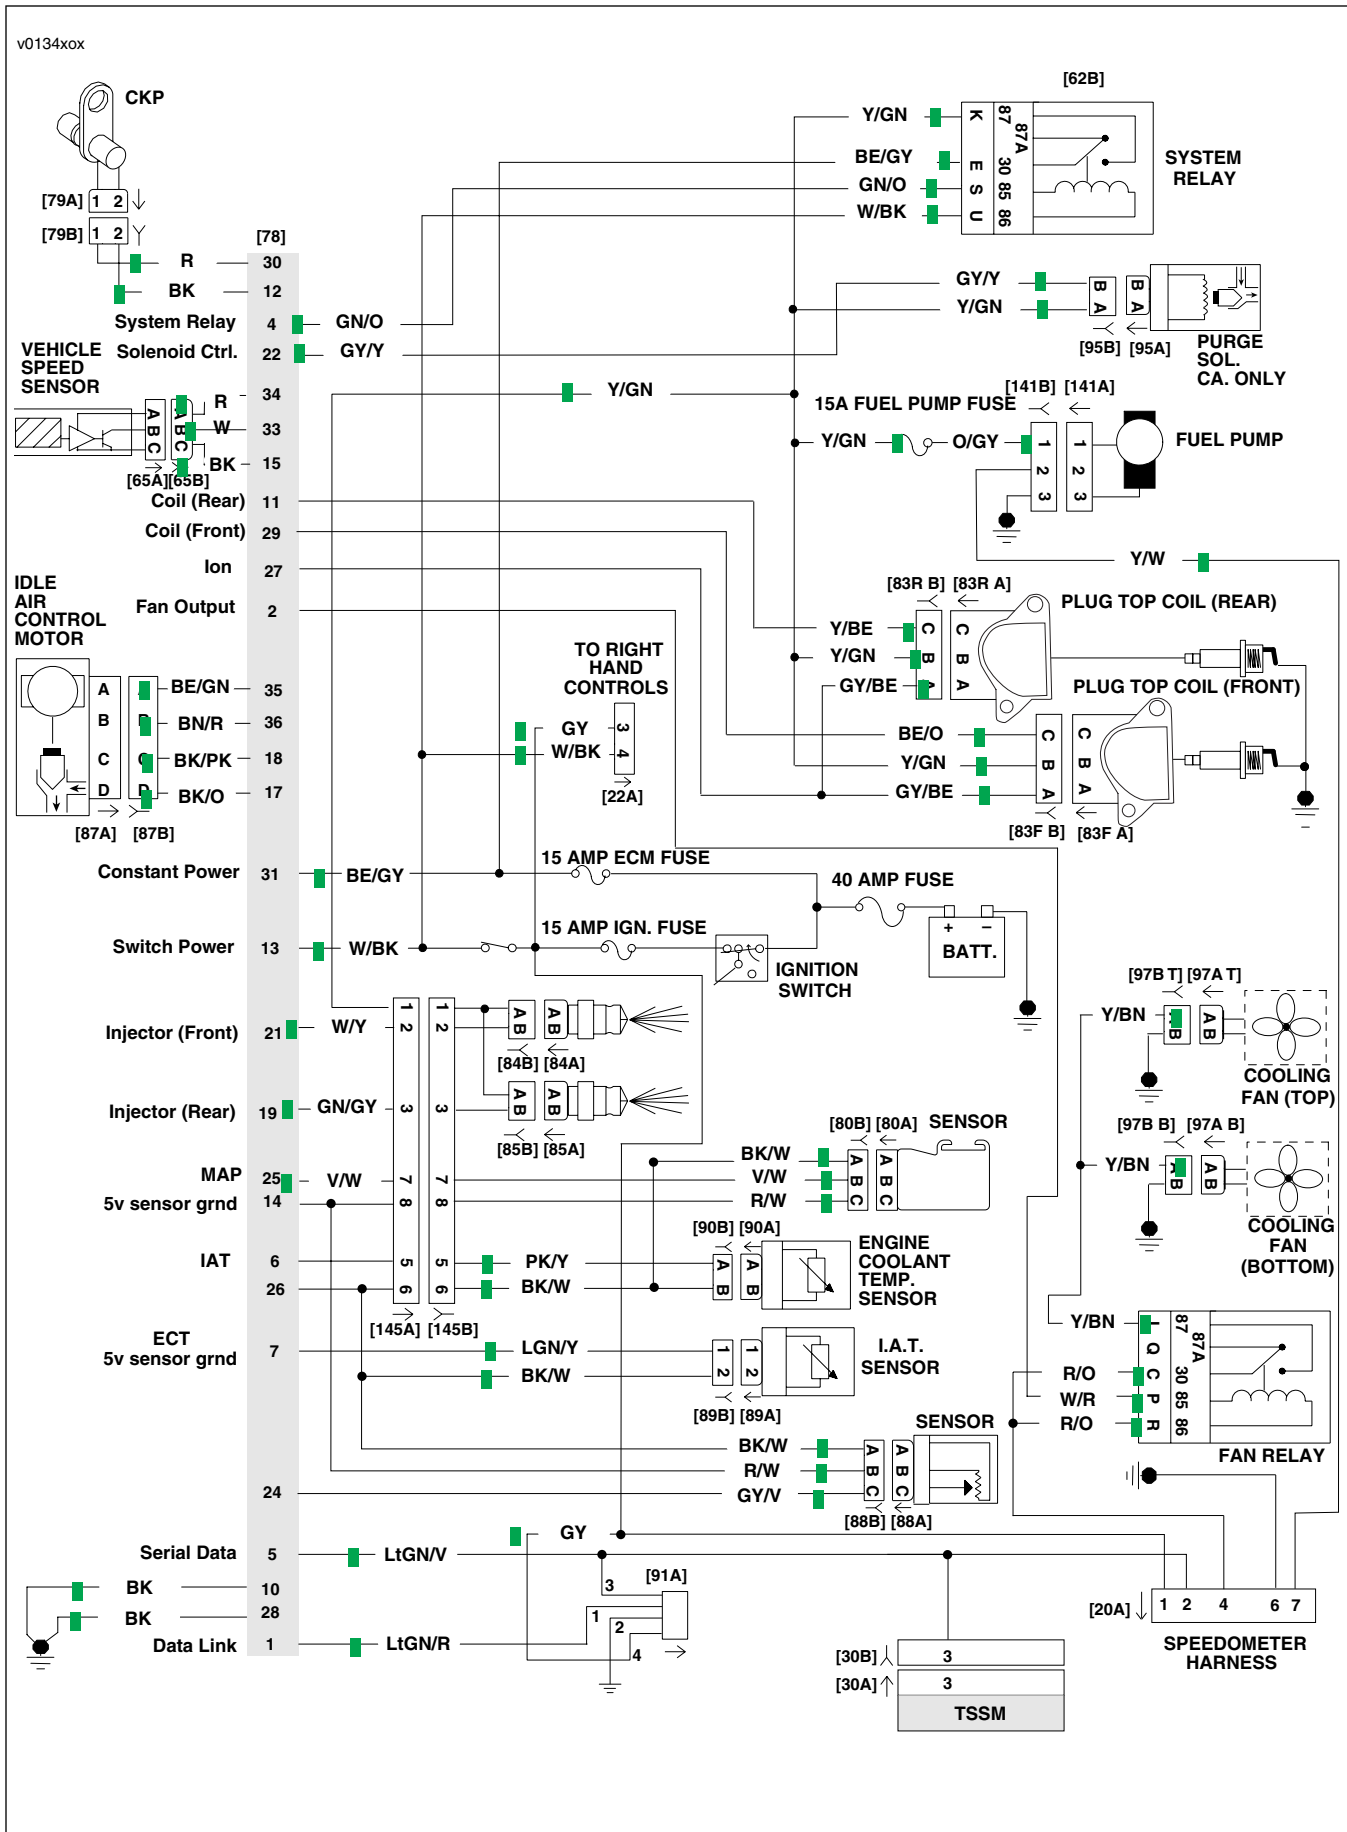

Figure 8-86. EFI Circuit Diagram
**Table 8-55. Wire Harness Connectors in Figure 8-86.**